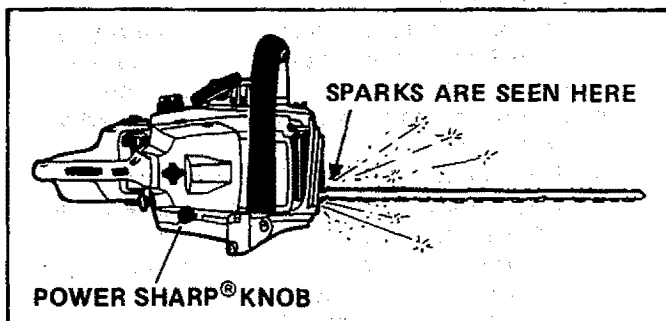

Figure 19
5. Push the Power Sharp® Knob down slowly until fully pressed down. Figure 19.
6. Turn knob slowly clockwise until sparks can be seen as shown in Figure 19.